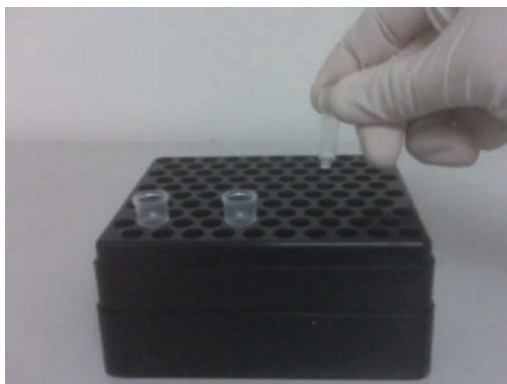

Figure 5: Using the ChIP Filtration Columns.
9. Label a ChIP Filtration Column for each ChIP reaction. Remove the tab from the bottom of the column and place in an empty 1 ml pipet tip box as a holder (see Figure 5 below).